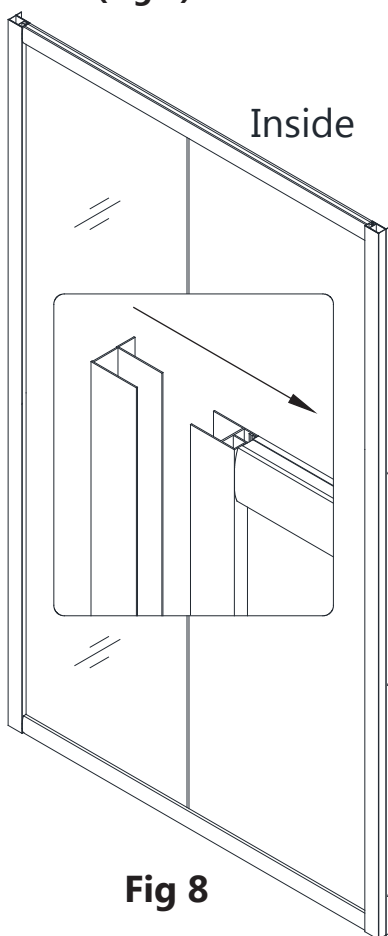

Fig 8
8. Slide the **Wall Profiles (#02)** all the way onto the **Glass Profiles (#01)** on both sides. Make sure the flange of the wall profile faces inside the shower. **(Fig 8)**